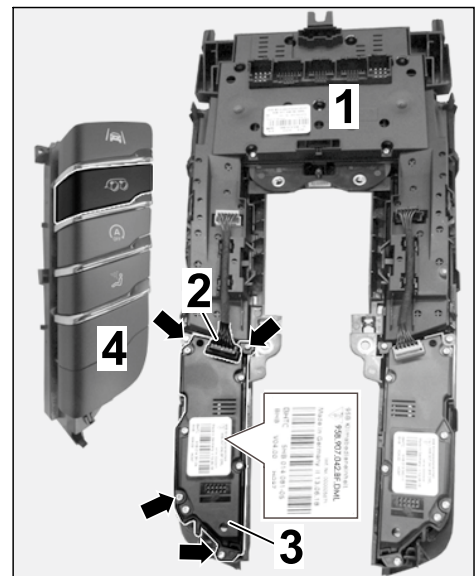

Figure 47
- 4.2 Replace button module at the right (⇒ *Figure 47*)
- 4.2.2 Remove screws (⇒ *Figure 47 -Arrows-*).